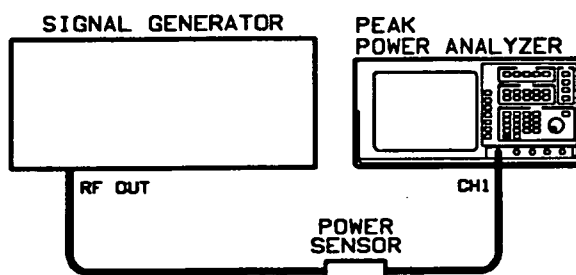

Figure 1-8.
3. Connect the peak power sensor to **CH 1** as in Figure 1-8.
2. Connect the peak power sensor to the signal generator as in Figure 1-8.
11. Connect the peak power sensor to the signal generator as in figure 1-8.
- c. Press **(-) (2) (3) (dBm)** on the keypad.